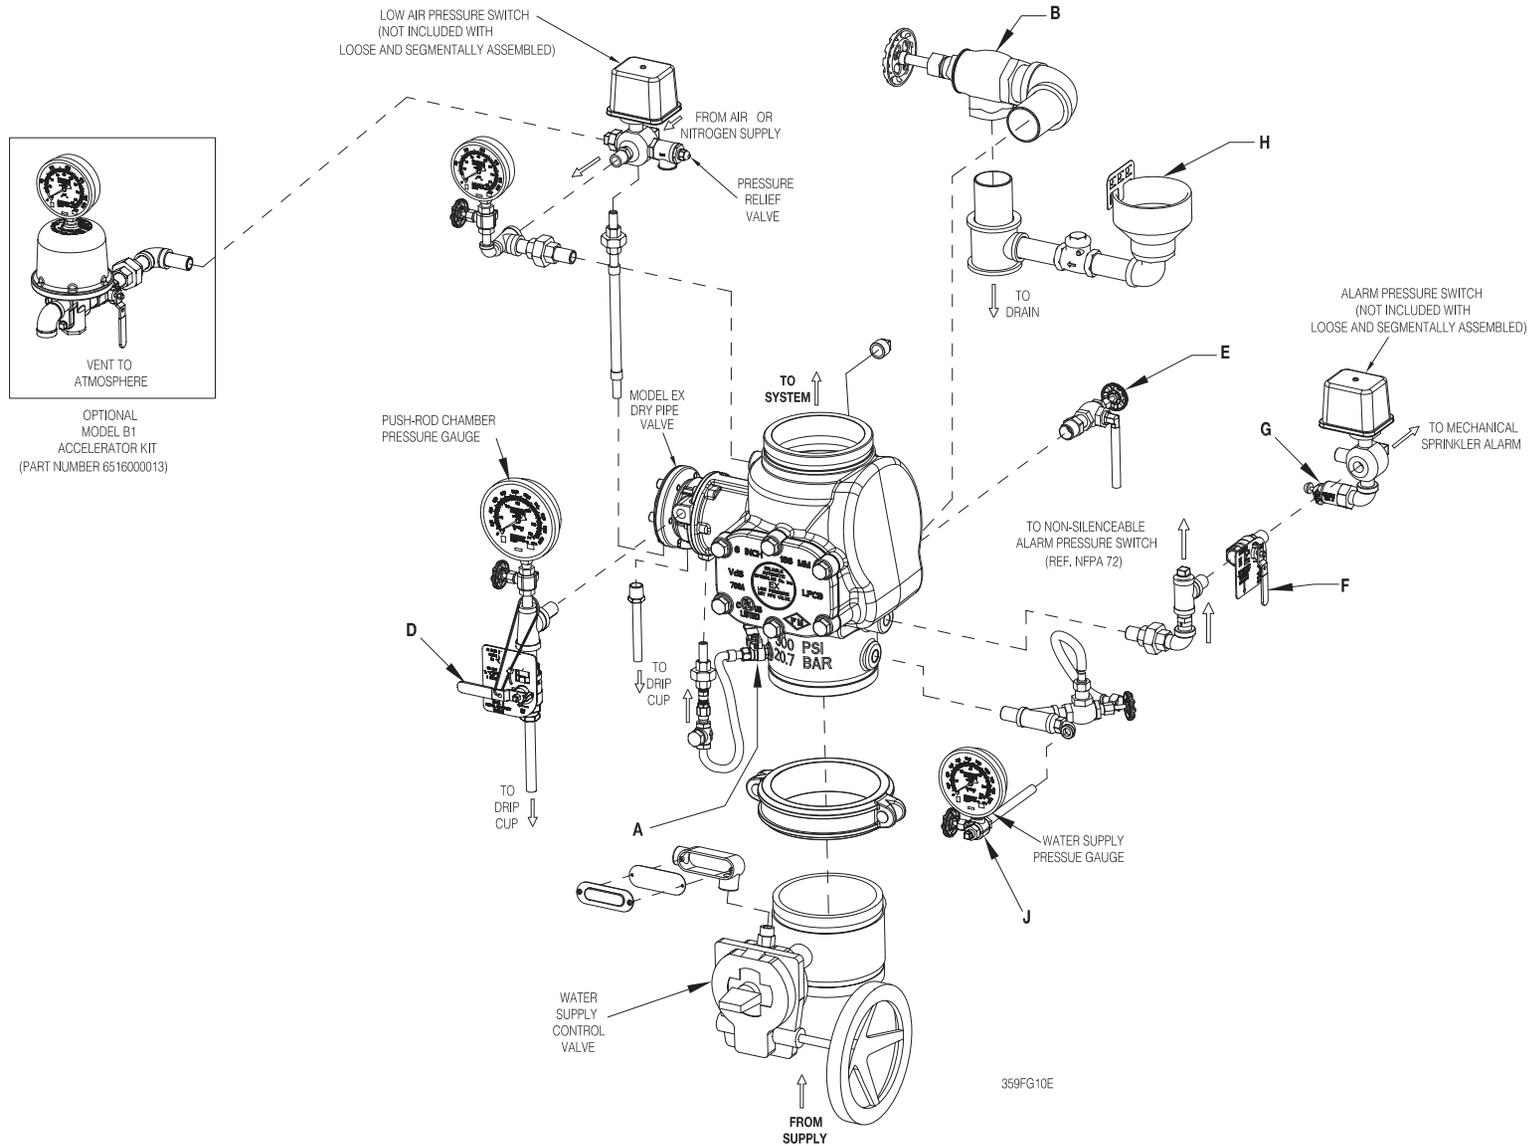

Fig. 10
2. Alarm Line – be sure that valve F (Fig. 10) is opened and remains in this position.
4. Ball Drip Valve (Automatic Drain Valve) – make sure valve F (Fig. 10) is open. Push in on the plunger to be sure the ball check is off the seat. If no water appears, the Dry Pipe Valve's seat is tight.
5. System pneumatic pressure – check system air pressure gauge (Fig. 10) and water supply pressure gauge (Fig. 10) for conformance to Table A.
Refer to Figures 10
Refer to Figure 10
2. Leakage out of the ball drip valve G (Fig. 10).
b. Leakage, air or water from the ball drip valve, G (Fig. 10):
- A. Shut down the valve controlling the water supply to the Dry Pipe Valve and open the 1¼" main drain valve on the 2" (50mm), 2½" (65mm), 76mm and 3" (80mm) valve sizes or the 2" main drain valve on the 4" (100mm), 165mm, 6" (150mm) and 8" (200mm) valve sizes, valve B (Fig. 10). Open the water column drain valve E (Fig. 10). Open the Model B Manual Emergency Station, valve D (Fig. 10).